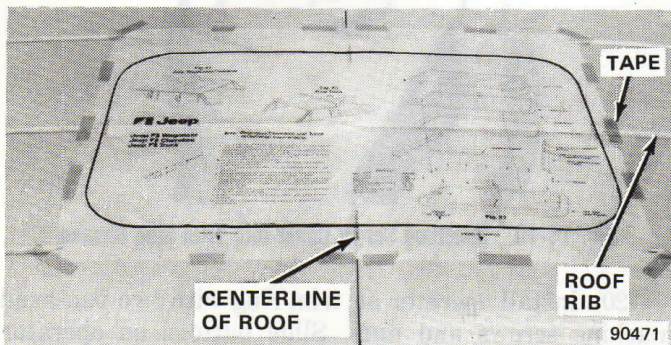

Fig. 14-12 Aligning Template on Vehicle Roof—Cherokee and Wagoneer Models
(1) Locate centerline of vehicle roof and mark with straightedge and felt tip pen.
(2) Cherokee and Wagoneer—Align template with roof centerline and first three ribs (fig. 14-12). Secure template with masking tape.